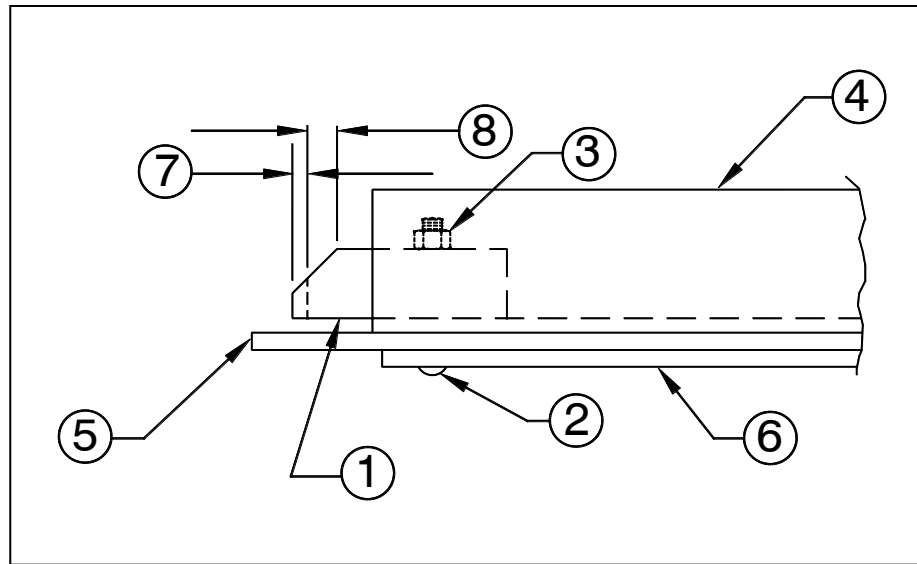

Figure 4.10e
- e. Check the scraper blade wear block for wear every three months. The wear block must be replaced when approximately 1/8" of the wear surface has been worn away. Refer to Figure 4.10e.